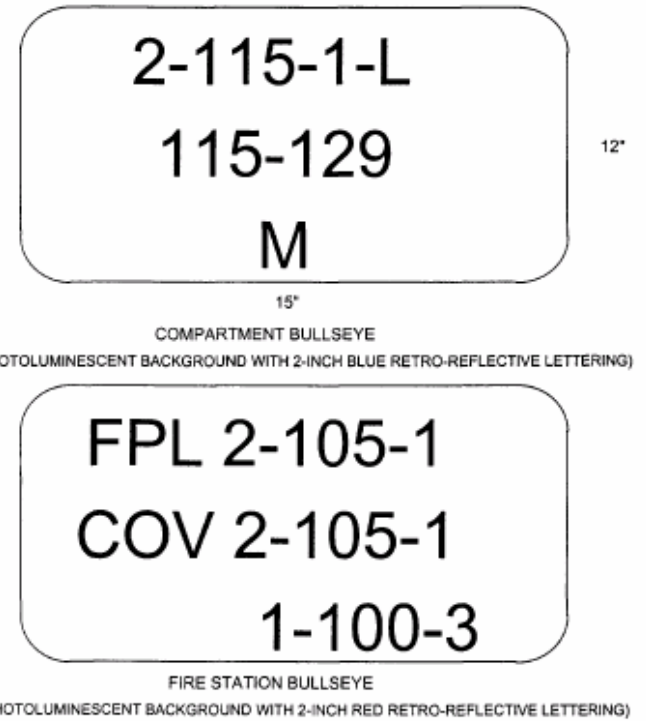

Figure 5
q. Interior fire station bull's eyes are to be applied as near as possible to each interior fire plug, sized to best fit the area available, preferably immediately above the fire plug valve. Figure 5 also depicts fire station markings.